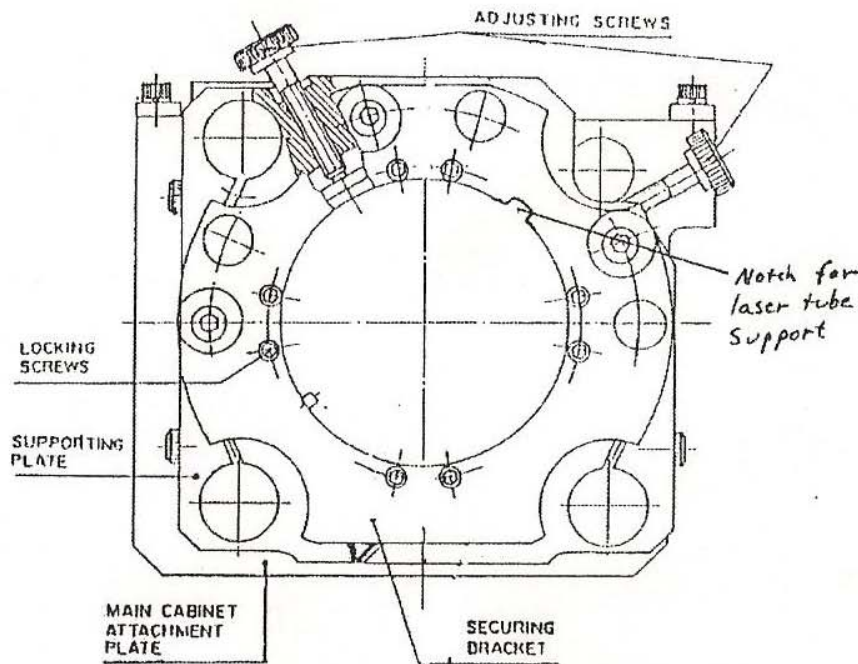

Figure 2. NEW CO₂ LASER TUBE SUPPORTING PLATE
1. Insert the new, one-piece front securing bracket. Insert and tighten the eight CO₂ laser front securing screws. Insert the three front locking screws (with their discs), but leave all locking screws loose in order to perform the tube alignment. See Figure 2.